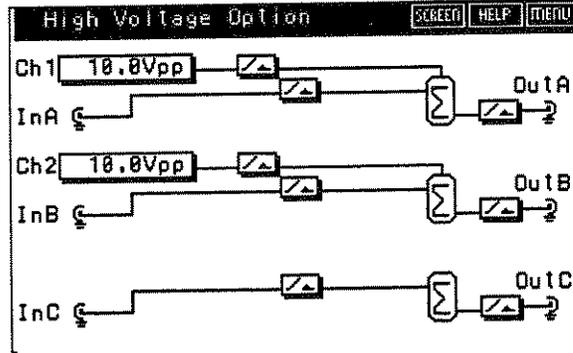

Figure G-2. High Voltage Screen
5. The screen now displays the *High Voltage Option* screen (figure G-2). An error message is displayed instead if the module is not installed.